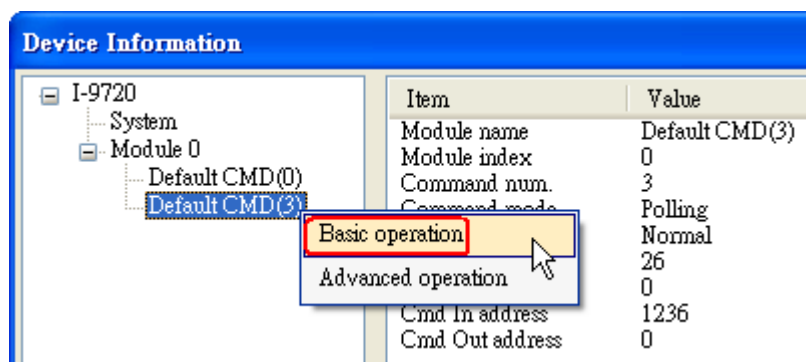

Figure 2-5 The “Basic operation” of the “Default CMD(3)”
(5) Right click the button of mouse on the “Default CMD(3)” item and choose the “Basic operation” option to open the “I/O Data” screen of the “Default CMD(3)” (Figure 2-5).